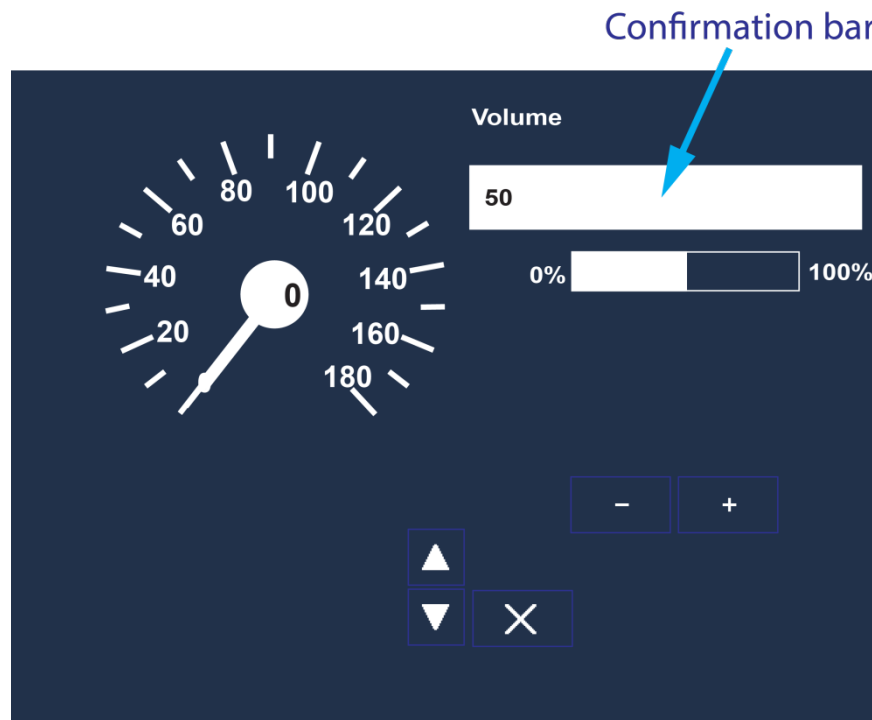

FIGURE 3: DMI volume adjustment screen
3. Press the confirmation bar (see Figure 3) to confirm the change and return to the normal screen, or press the  symbol to return to the normal screen without saving your change.